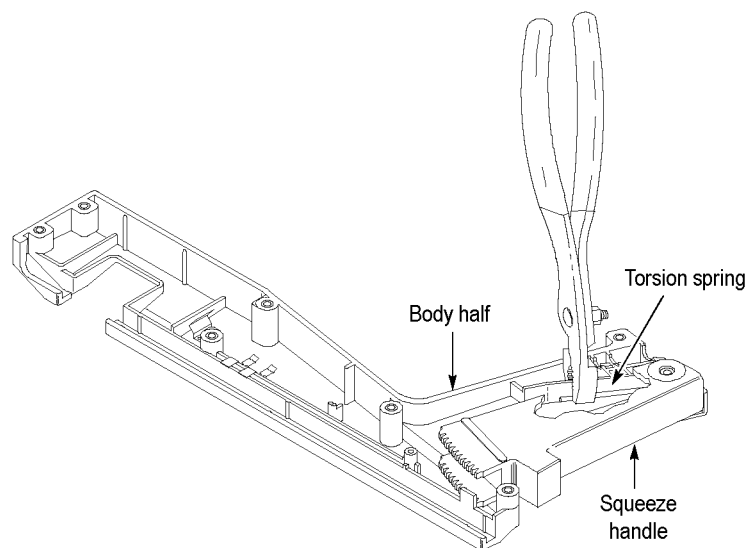
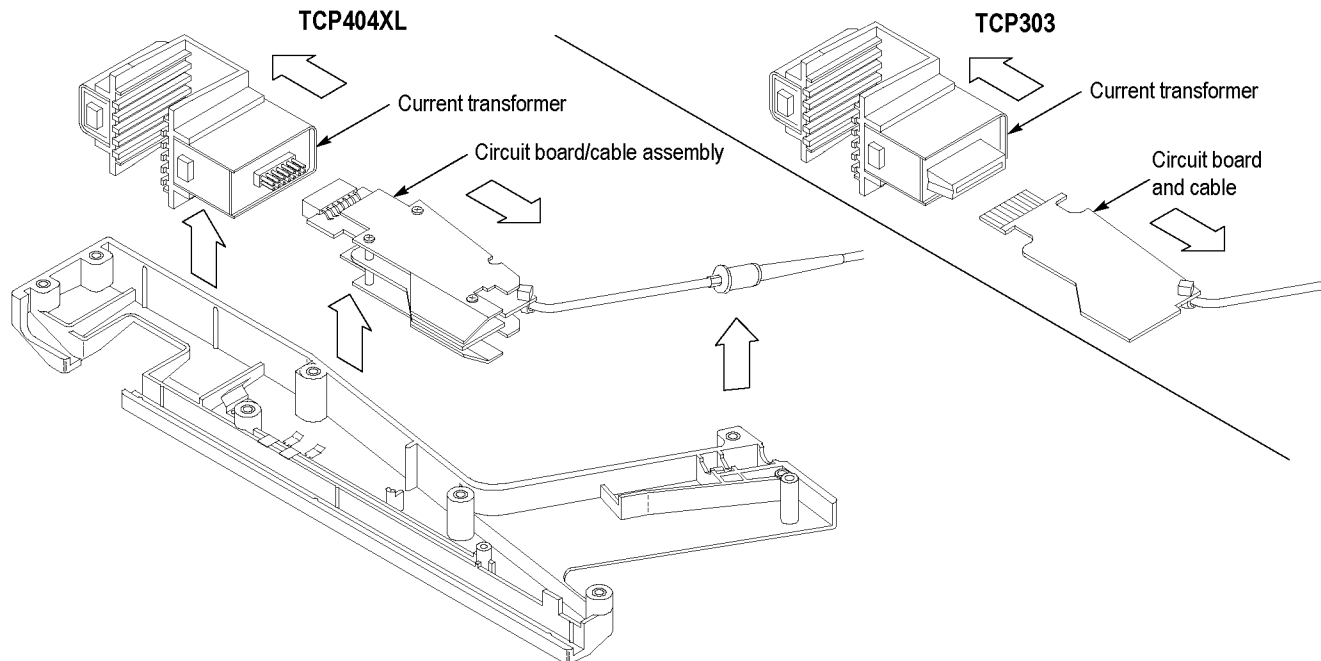

Figure 34: Removing the handle
Figure 35: Removing the current transformer
7. While maintaining a firm grip on the pliers, carefully lift the squeeze handle and gear out of the probe. (See Figure 34.) (See Figure 35 on page 78.)